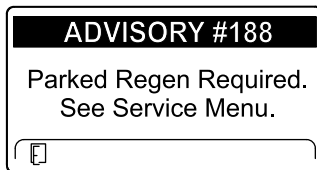

Figure 66
- Parked regeneration required ADVISORY #188 (Figure 66)